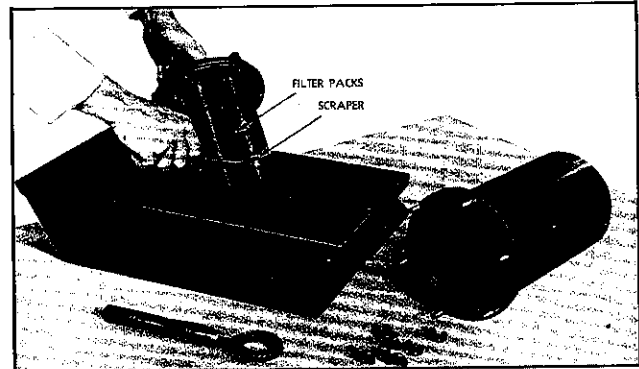

Fig. 20—Cleaning Lubricating Oil Filter Packs with Scraper (Operation 1).
- (b) If compressed air is not available, use scraper and brush furnished with the equipment. Scrape off the heavy cake of solids and other contaminations that have collected on the outer edge of the flexible paper discs. Then using fuel oil, or kerosene, clean the outside of the packs, with the circular brush supplied so that the edge of the flexible paper discs are clean and free from any contaminations. (See Figs. 20 and 21.)